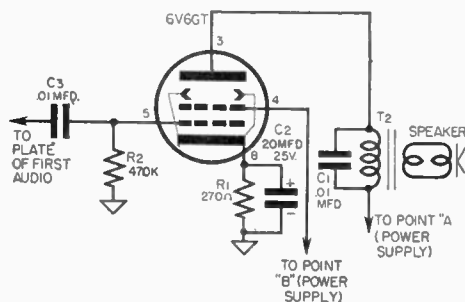

Fig. 8-26. Output circuit.
c) Output Circuit. See Figure 8-26.